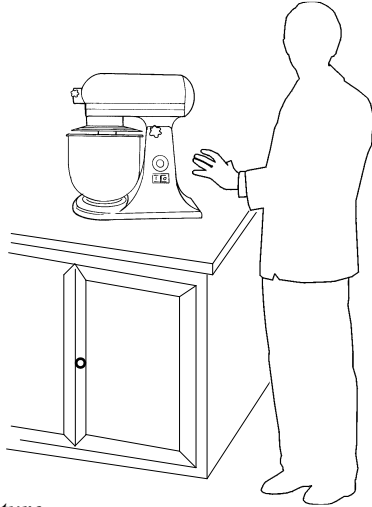

FIG. N. 7 - Correct posture
5. To prevent accidents, position yourself correctly; your body must be perpendicular to the countertop (refer to FIG. n. 7); do not force any of the machine components with your hands or block or touch moving utensils. **Do lean against the mixer to prevent your body from coming into direct contact with it;**